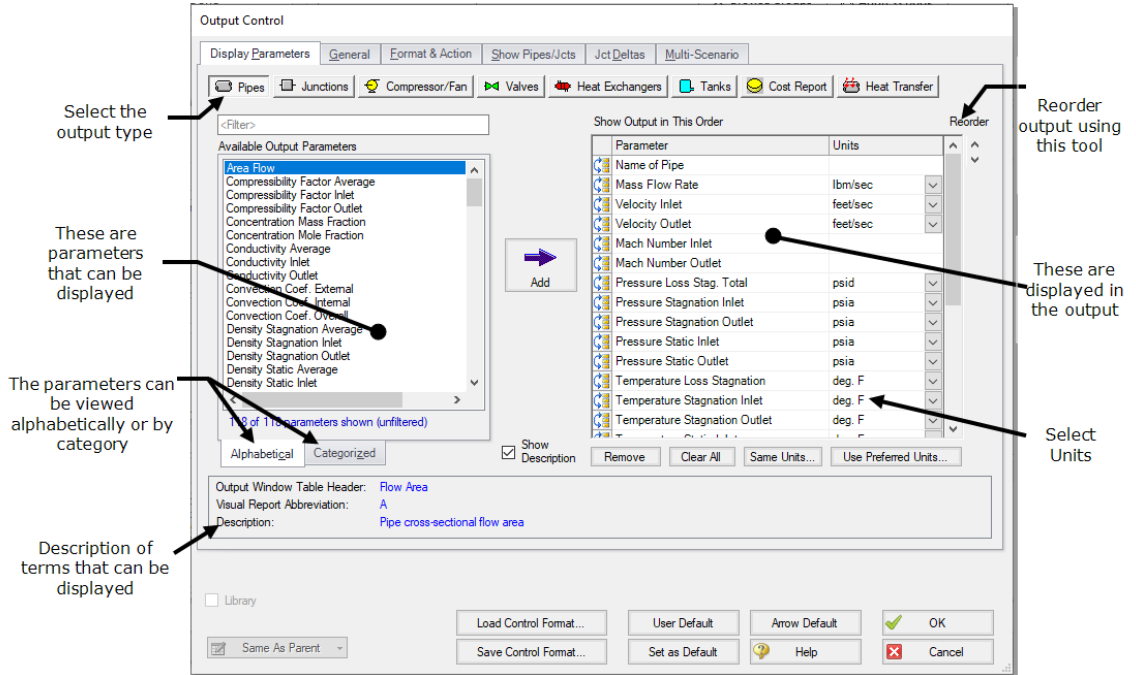

Figure 2.17 The Output Control window lets you customize the output
The Output Control window (Figure 2.17) allows you to select the specific output parameters you want in your output. You also can choose the units for the output. If you do not change any of the Output Control settings, default Output Control parameters and a default title are assigned.
- **Select Output Control** from the Tools menu or the Main Toolbar to open the Output Control window (Figure 2.17). On the Display Parameters tab, select the Pipes button. The list of selected pipe output parameters will be displayed on the right hand side. If you selected the default AFT Arrow Output Control, the pipe results in the Pipes table will show mass flow rate in the second column with units of lbm/sec. Change the units for Mass Flow Rate by selecting kg/hr (kilograms per hour) from the unit list shown beside the parameter.
- **Select Output Control from the Tools menu** one more time. Select the Display Parameters tab, and select the Pipes button. The Reorder scroll bar on the far right allows you to reorder the sequence of parameters that will be displayed in the output. You can also click on the reorder symbol on the left side of each row to manually drag-and-drop the rows to change the parameter order (see Figure 2.17).